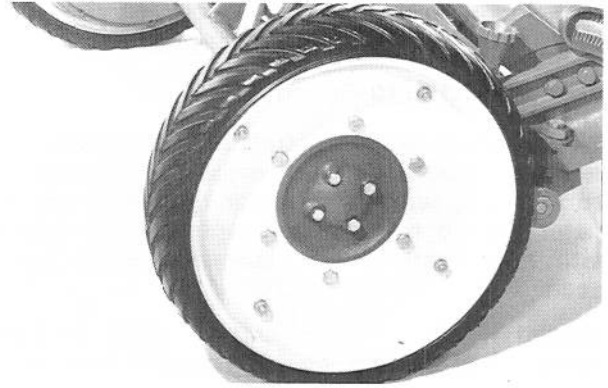

Figure 2
3. Install drive wheels with cap screws and lock washers (Fig. 2). Do not try to install wheels over the shipping caps.